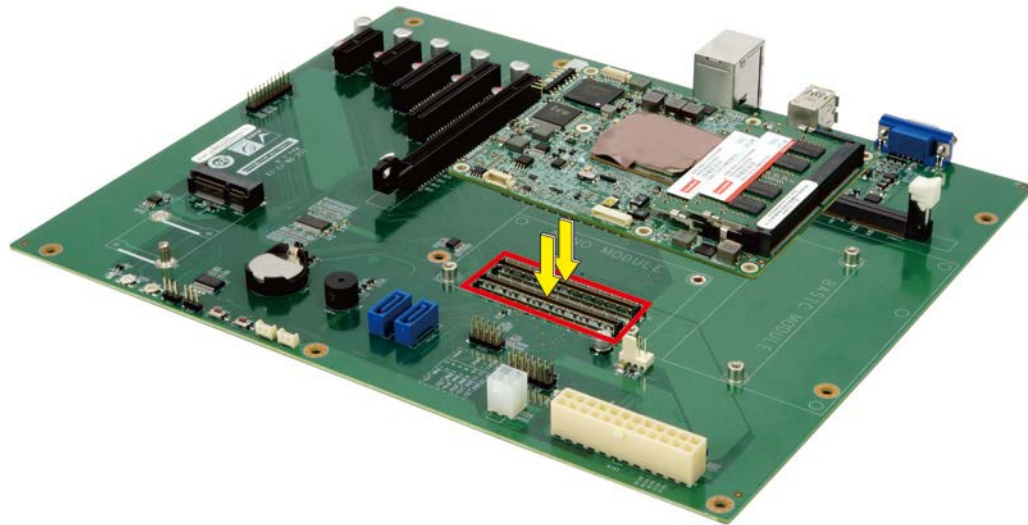

Figure 4-2: Connect the COM Express Connectors
- Step 1:** Align the two COM Express connector on the solder side of the ICE-BDE-T7 with the corresponding connector on the baseboard. Gently push the COM Express module down to ensure the connectors are properly connected (Figure 4-2).